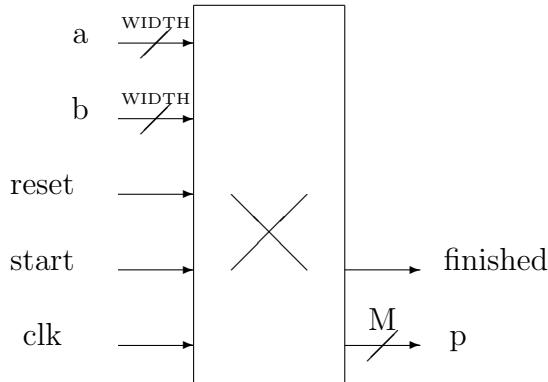

Figure 6: Interface of serial-multiplier entity.
The interface of the VHDL entity of the serial multiplier is illustrated in Figure 6. The signal ports are as for the bit-serial adder. Note that the wordlength of the product can be different from that of the factors.
- Create a VHDL entity in accordance with Figure 6. Use the test bench to verify it, as before.